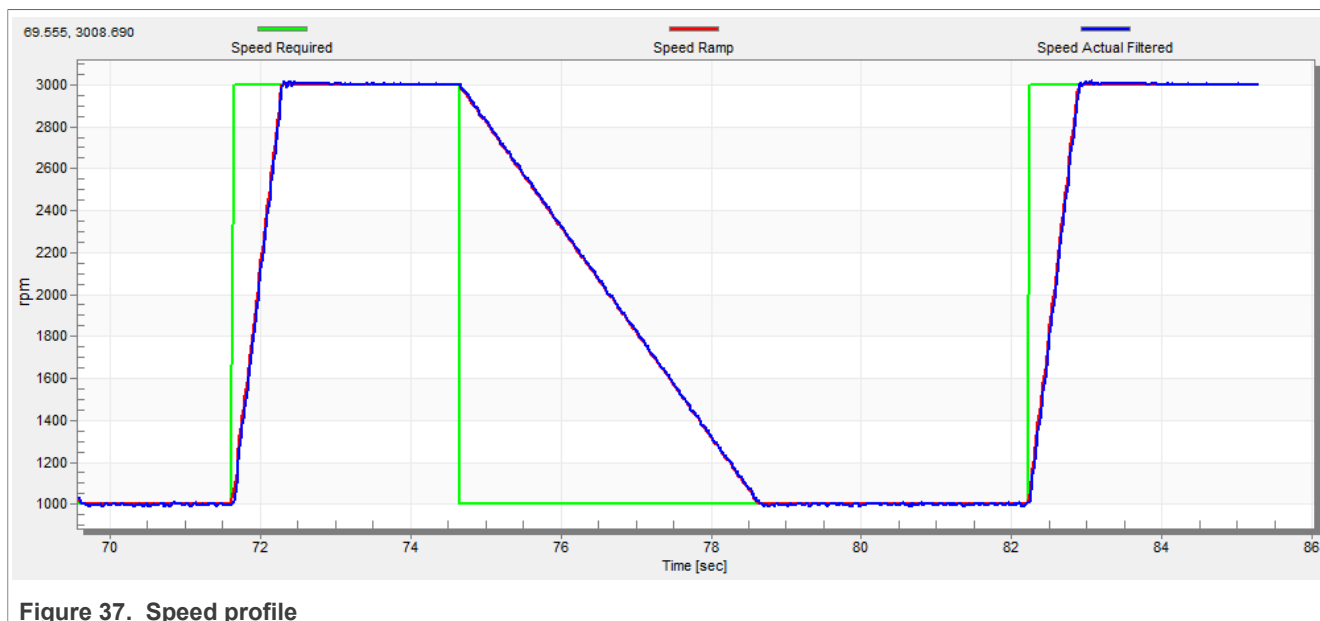

Figure 37. Speed profile
2. The increments are common for the scalar and speed control. The increment fields are in the "Speed loop" tab and accessible in both tuning modes. Clicking the "Update target" button applies the changes to the MCU. An example speed profile is shown in Figure 37. The ramp increment down is set to 500 rpm/sec and the increment up is set to 3000 rpm/sec.